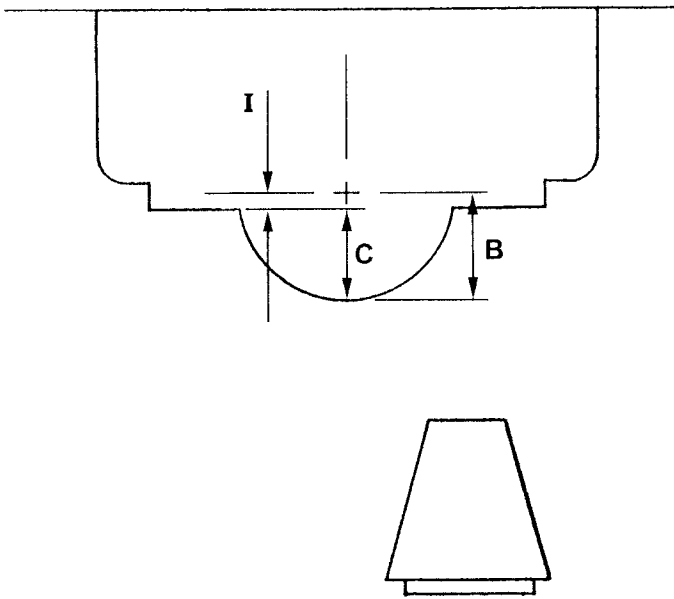

FIGURE 8
8. Subtract this reading from the size of the Setting Gage. The result is "C" in Figure 8.
9. Subtract "C" from "B" to find "I" ($B-C=I$). **Important note:** Figure 8 is drawn with "C" smaller than "B"; in other words, the bearing cap parting line is below the centerline. However, in some cases, "C" will be larger than "B", meaning that the parting line is above the centerline. **Always use the formula $B-C=I$. If "C" is larger than "B", then "I" will be negative. Do not ignore the negative sign.**